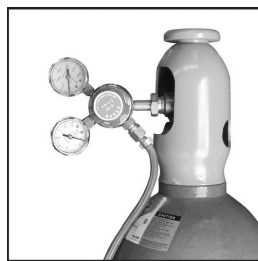

Figure 2.
1. Connect the regulator and gas hose assembly, then tighten all connectors and clamps (Fig. 2).